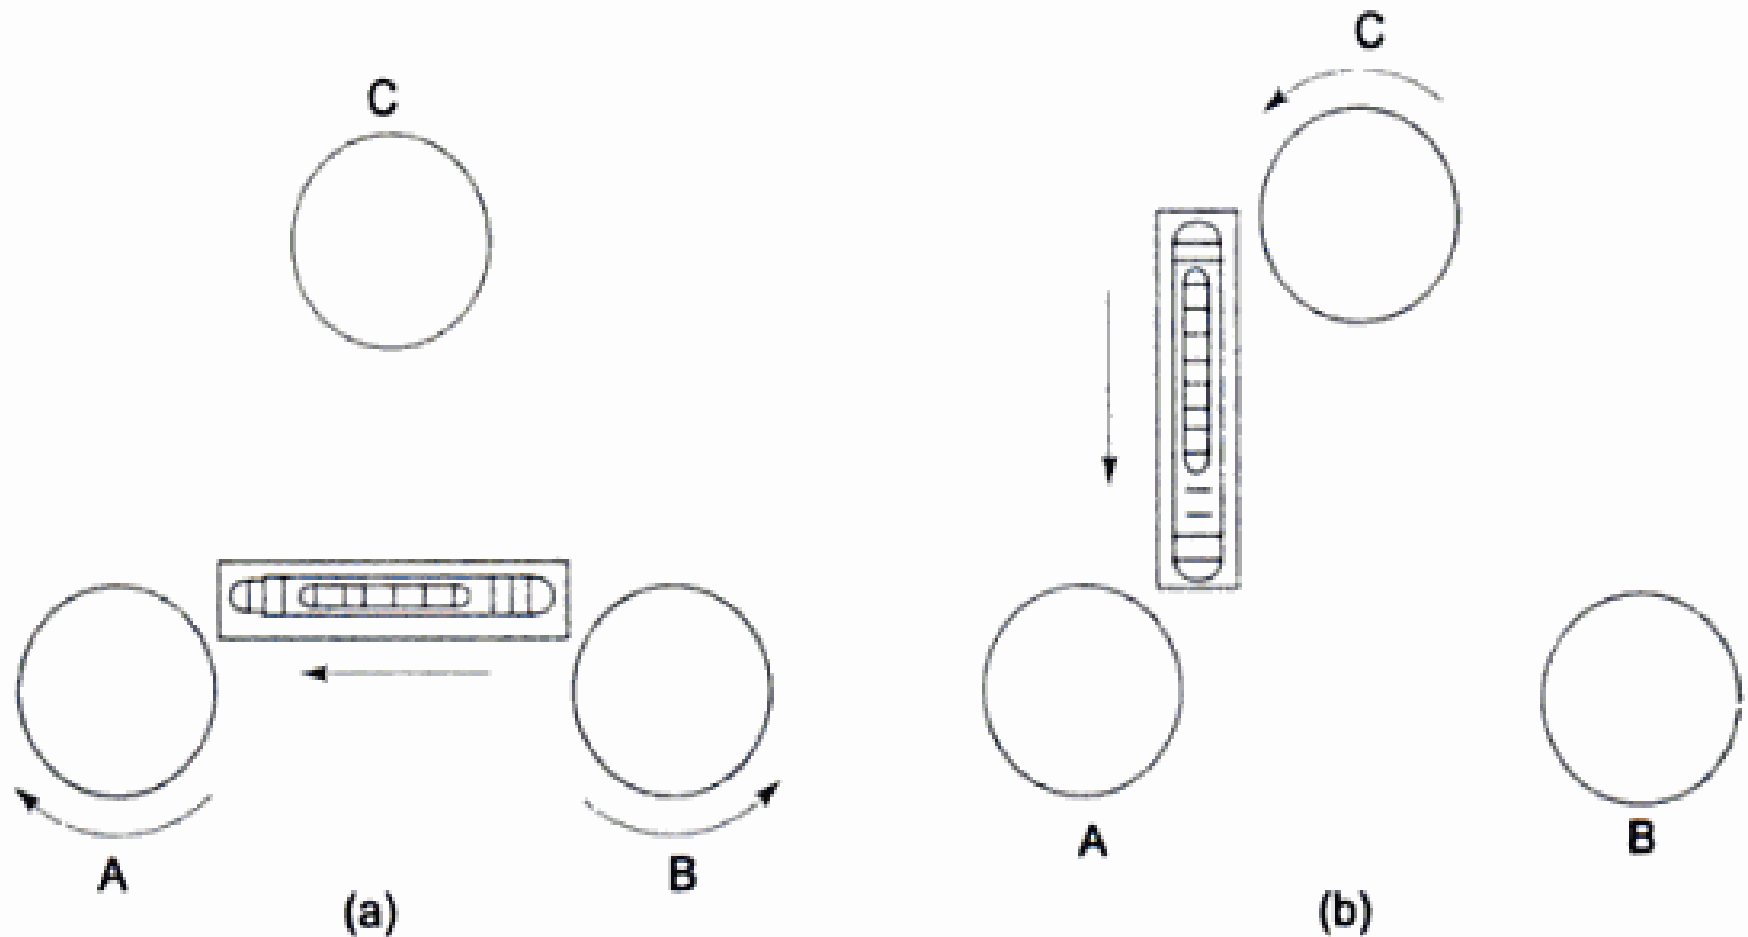

Fig. 4.4 Levelling with three foot screws
2. Bring the bubble of the longer plate level to the centre of its run by moving the two foot screws, say A and B, uniformly either inwards or outwards (Fig. 4.4(a)). It may be noted that the bubble always moves in the direction of the left thumb as the surveyor turns the screw.
3. Move the third foot screw C so that the bubble in the other plate level is centred (Fig. 4.4(b)).